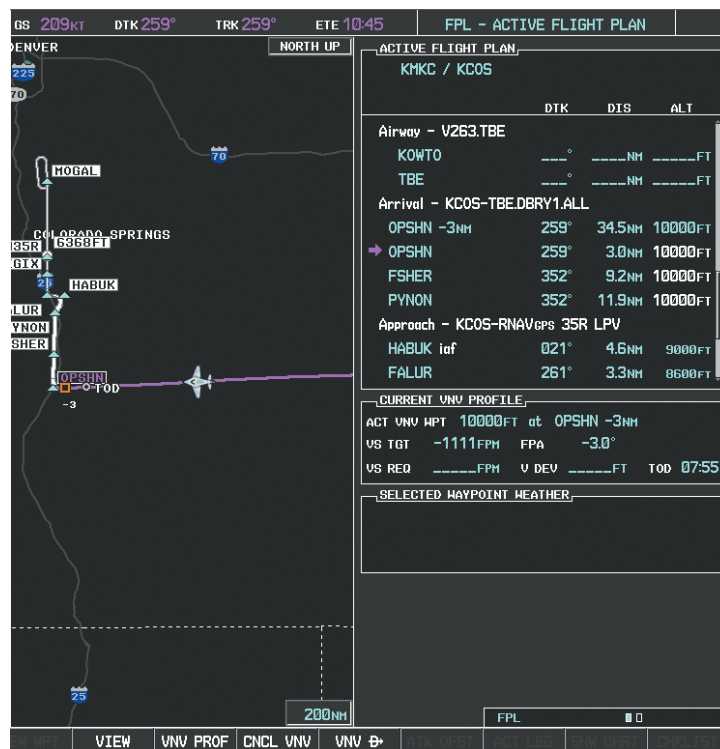

Figure 5-137 Adjusting the Descent
- a) Select the **VNV PROF** Softkey to place the cursor in the target vertical speed field (VS TGT) as shown in Figure 5-137.